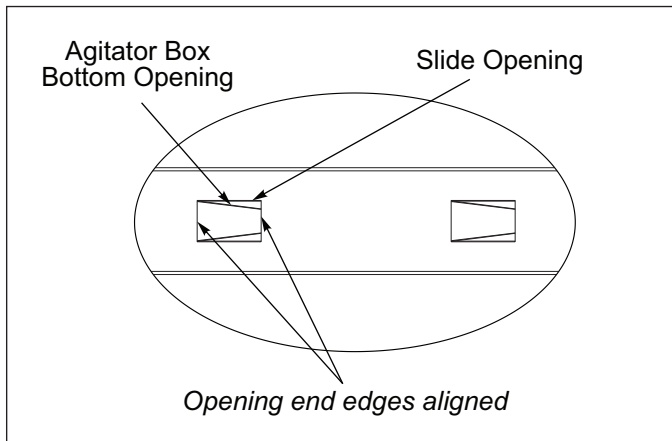

Figure 4-23: Shifter Handle Set at “6”
- When the Pointer is set to “6” (open), the Agitator Box bottom opening end edges are aligned with the Slide opening end edges. Agitator Box bottom opening is completely visible. **See Figure 4-23.**